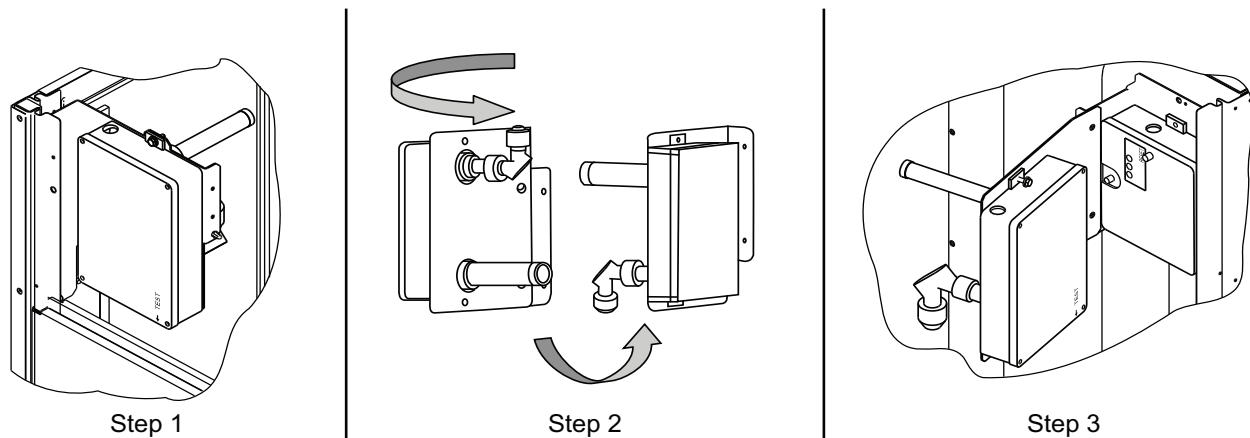

Fig. 63 — Completing Installation of Return Air Smoke Sensor
1. Unscrew the two screws holding the return air smoke detector assembly. See Fig. 63, Step 1. Save the screws.
2. Turn the assembly 90 degrees and then rotate end to end. Make sure that the elbow fitting is pointing down. See Fig. 63, Step 2.
3. Screw the sensor and detector plate into its operating position using screws from Step 1. See Fig. 63, Step 3.